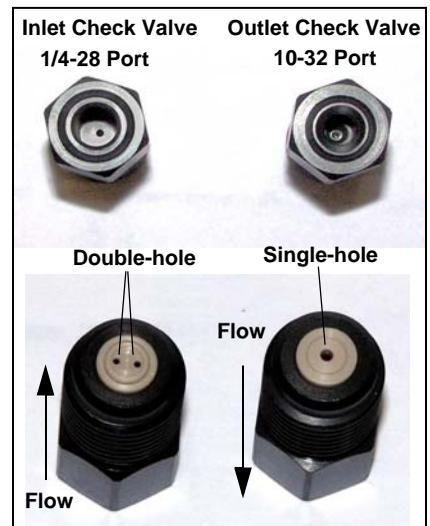

Figure 5-5. Check Valve Assemblies
1. Inspect the new inlet check valve assembly (P/N 045722) to verify that the double-hole end of the cartridge is visible (see Figure 5-5).